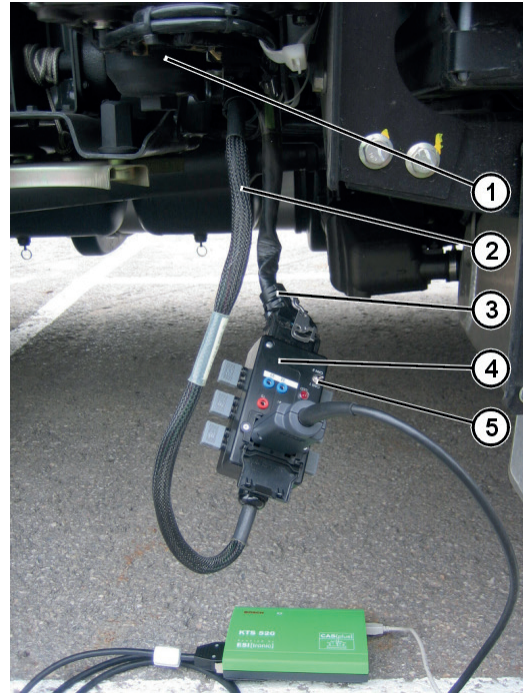

Fig. 2: Connecting the adapter module
2. Disconnect the connector on the bottom of the delivery module (fig. 2, item 1) trennen. To do this, squeeze the retainer tabs on the plastic part of the connector and release the locking lever.
3. Connect the adapter module connecting lead (fig. 2, item 2) to the delivery module.
4. Connect the wiring harness side connector (fig. 2, item 3) to the adapter module (fig. 2, item 4).
5. Connect the diagnostic tester to the adapter module diagnostic connection (fig. 2, item 4).
6. Select the interface for diagnostic communication using the switch (fig. 2, item 5).